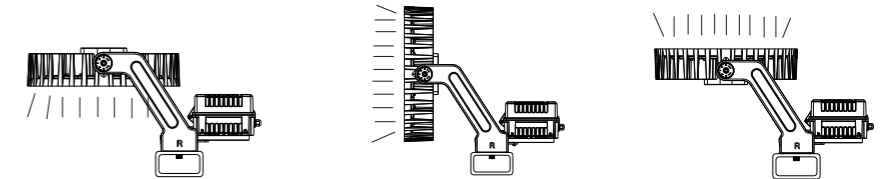

Figure 6
5. According to the need, adjust the projection angle, angle adjustment range (Figure 6);